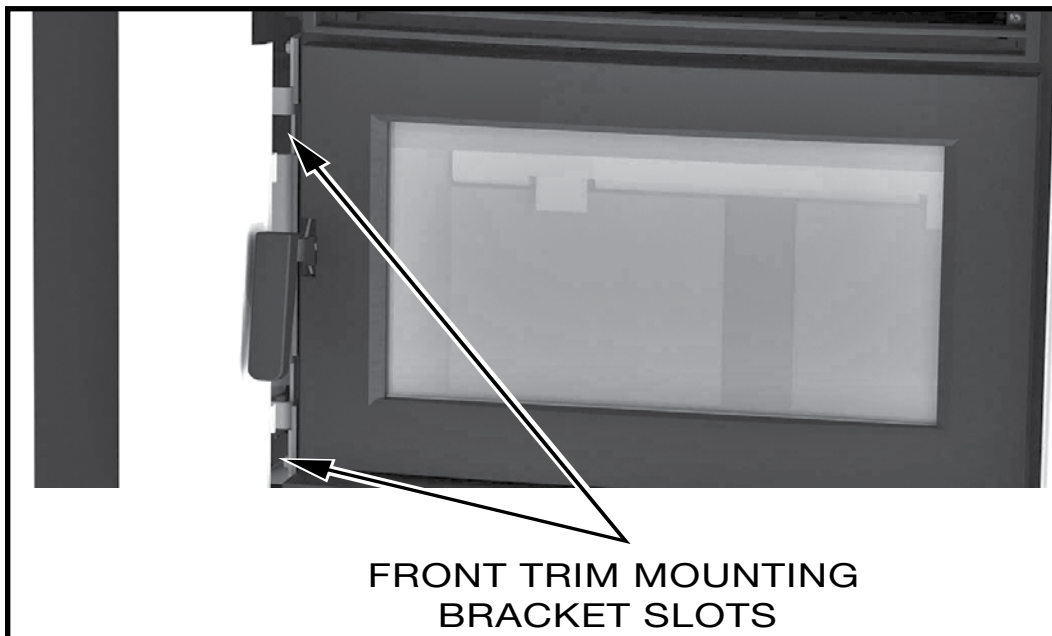

Figure 8: Surround attachment points.
3. Attach the Front Trim by inserting the mounting hooks into the slots between the fan mount brackets and the firebox on both sides of the firebox and sliding it down to engage the hooks onto the brackets (Figure 8).